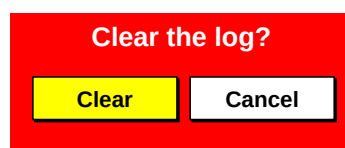

Figure 18 – Test results deletion mode
4.6.2.7 In the test results view mode, when the «**Mode**» key is pressed, switching to the test results deletion mode occurs (see figure 18).